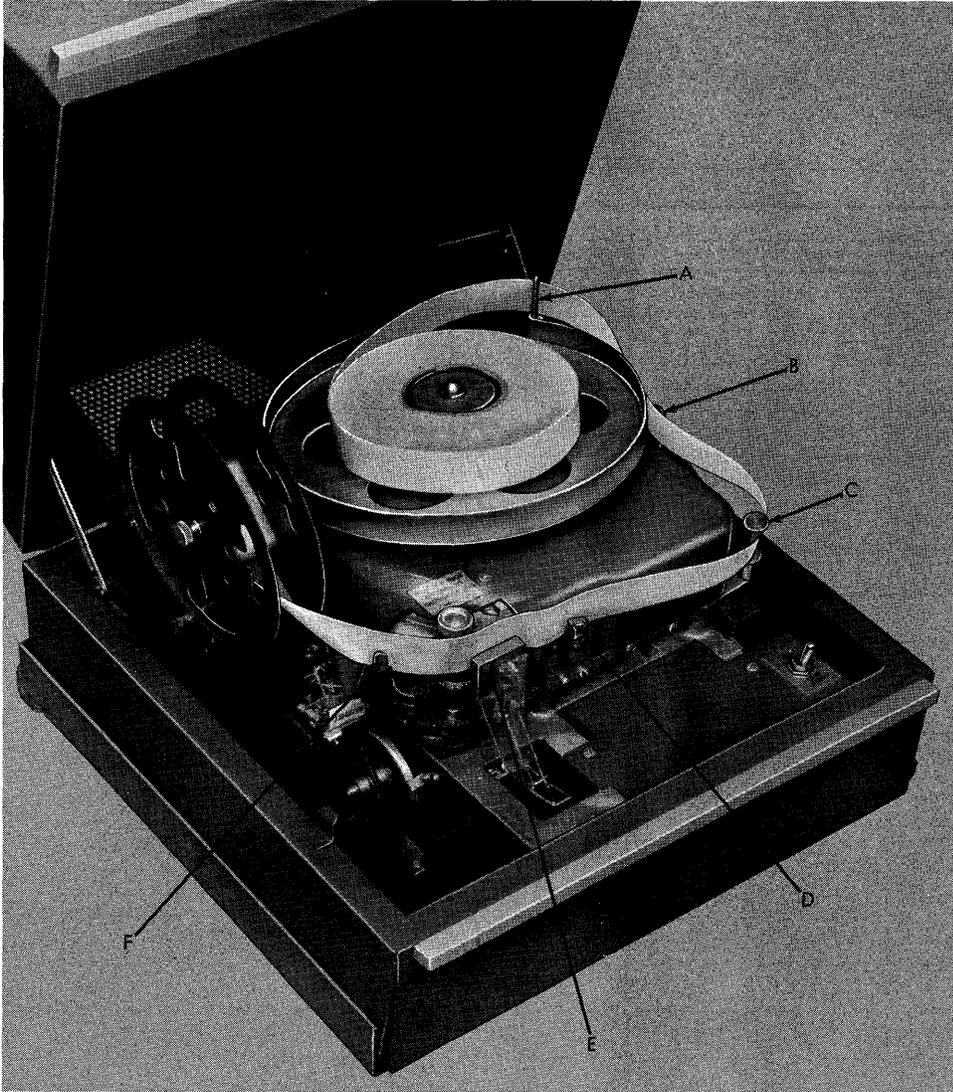

Figure 10 IBM Tape Punch
Place the roll of unpunched tape on the turntable and thread as shown in Figure 10. The tape retainer (F) must be rotated to the left by pushing back on its extended left edge. This also moves the tape lever (D) forward to facilitate threading. An unwound section of tape is then threaded as follows:
1. Through the tape guide (A).
2. Inside the tape guide (B).
3. In front of the tape tension guide (C).
4. In back of the tape lever (D).
5. Between the punching mechanism and the punch guide block (E), which can be seen in front of the tape.
6. Between the guides on the tape retainer (F). With the end of the tape held to the left, the tape retainer (F) is returned to normal position, which causes the pins on the feed roll to pierce through the blank tape. The tape lever simultaneously returns to normal position with the top guide above the tape.